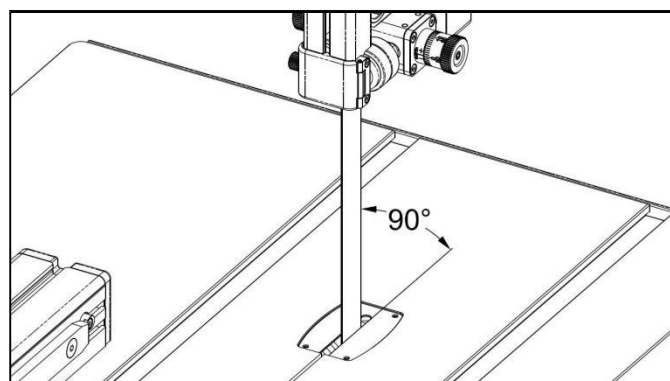

Fig. 8-12
2. Refer to Fig. 8-12, if the angle between the back of the blade and the table surface is less than 90°, rotate the two infeed-side set screws (M8) clockwise by the same number of turns (or rotate the outfeed-side screws counterclockwise).